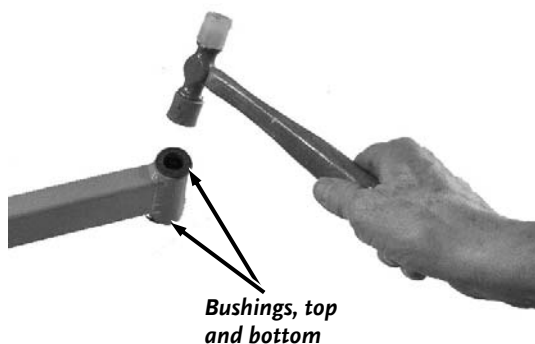

Figure 4
1. Insert two black Castor Wheel Spindle Bushings (one on top and one on the bottom) into a Front Arm of the Lawn Deck Frame. You may need to tap the Bushings in with a Hammer (Figure 4).